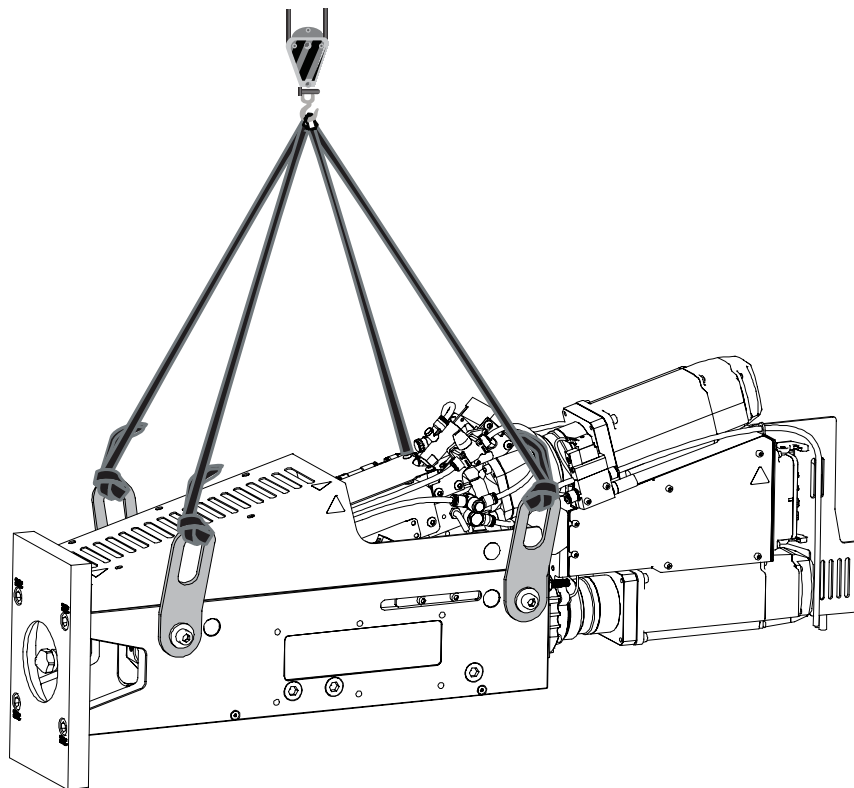

Figure 5-6 Horizontal lifting
1. Make sure that all lifting plates are properly connected with four long slings at the common lifting points. See Figure 5-6 Horizontal lifting.